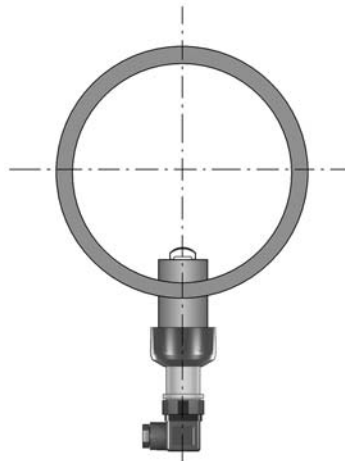

Fig. 1
- Fig. 1: installation with no sediments present or not completely full pipeline